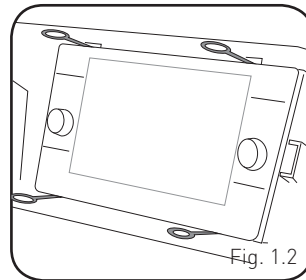

Fig. 1.2
- Insert the four (4) supplied radio keys into the slots at the top and bottom of the factory radio with the tapered sides facing inward, pull outward to remove the radio from the dash. (Fig. 1.2)